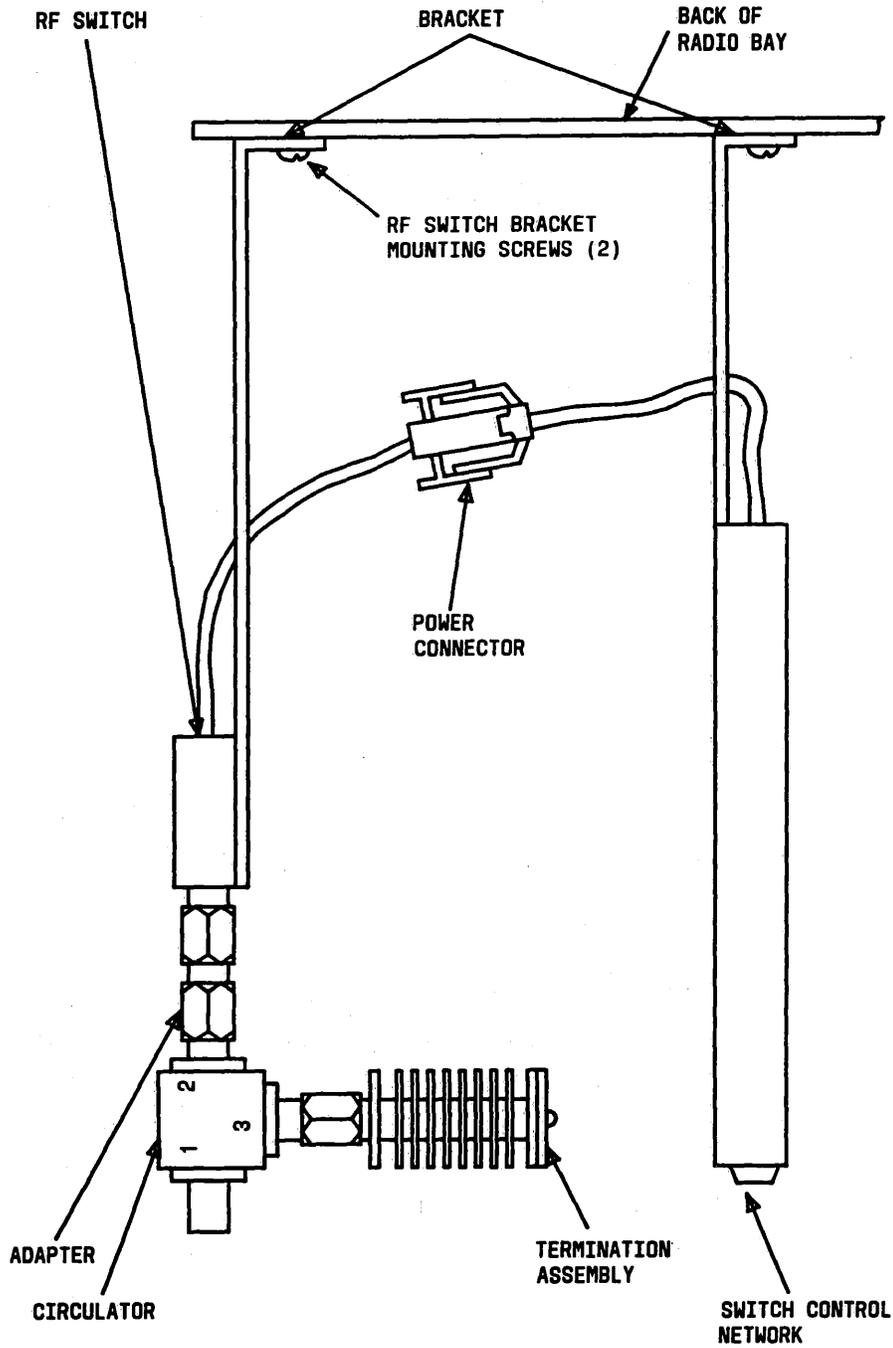

Fig. 4—Top View of Installed Transmitter Switch With RF Switch and Switch Control Network—Left-Hand Waveguide Feed
12	Release the holding tabs and pull the power connector apart (Fig. 4 or 6).
17	Remove the circulator and SMA adaptor combination from the A (NC) port on the RF Switch being replaced, and install it in the same orientation on the A (NC) port of the replacement RF switch. The middle port of the circulator should be perpendicular to the bracket and pointing to the right if it is a left-hand waveguide feed bay (Fig. 4) and